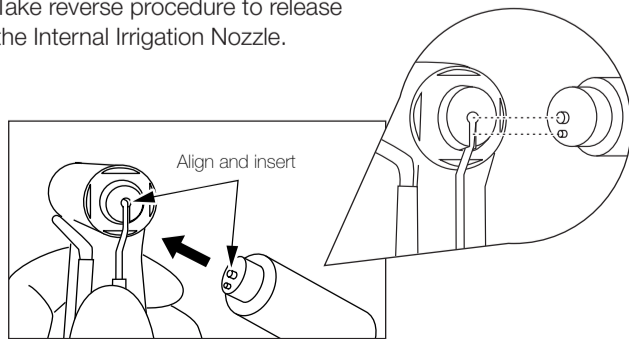

Fig. 7
- ③ Align and insert the 2projected points of wrench and slit of push-button. (Fig.7)